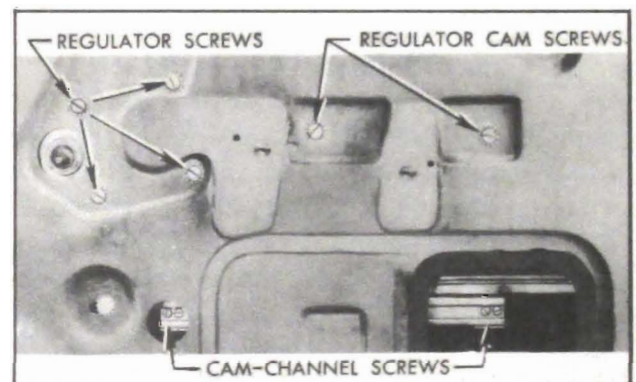

Figure 13-35—Window Regulator and Cam Attaching Screws
2. With glass in lowered position, remove screws attaching the cam to lower sash channel. See figure 13-35.
2. With glass in lowered position, remove screws attaching the cam to lower sash channel and remove the cam. See figure 13-35.